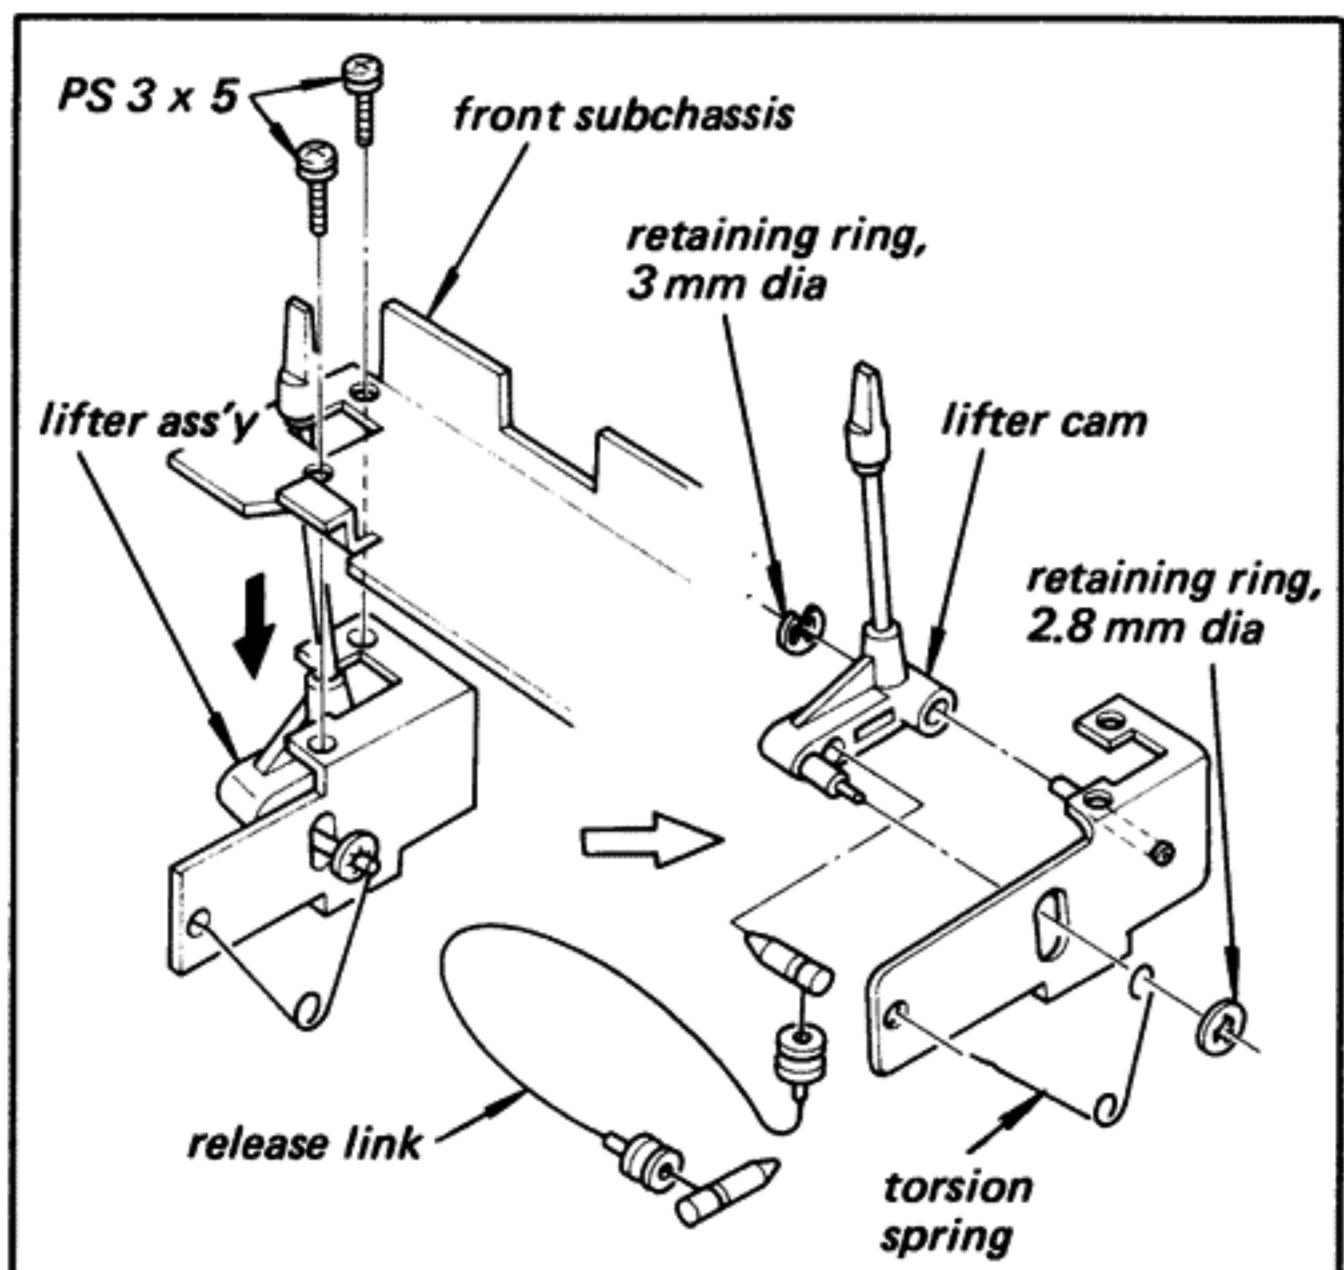

Fig. 2-13. Lifter ass'y/release link removal
5. Remove the lifter ass'y downwards by removing the two screws (PS 3 x 5) as shown in Fig. 2-13.
6. Remove the retaining ring (2.8 mm dia) and the torsion spring shown in Fig. 2-13.
7. Remove the lifter cam by removing the retaining ring (3 mm dia) shown in Fig. 2-13.
8. Pull out the release link from the lifter cam as shown in Fig. 2-13. This frees the release link.